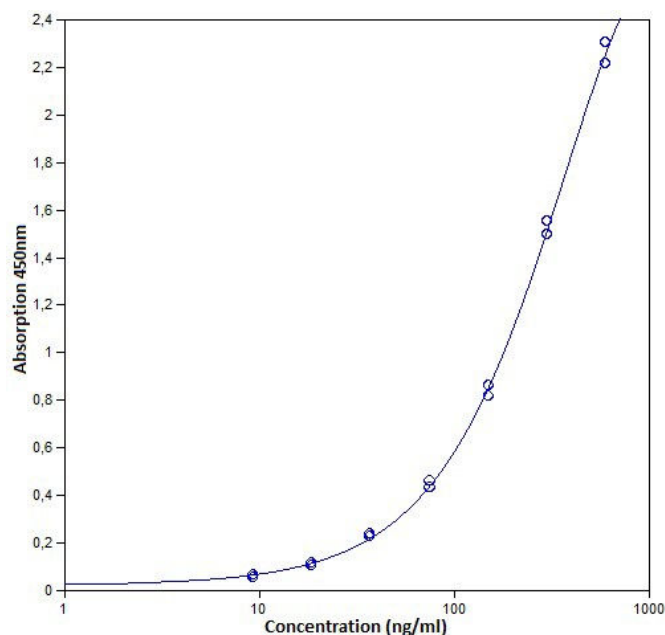

Fig. 7 Representative standard curve for human IgG4 ELISA. Human IgG4 was diluted in serial 2-fold steps in Assay Buffer (1x)
- A representative standard curve is shown in Figure 7.